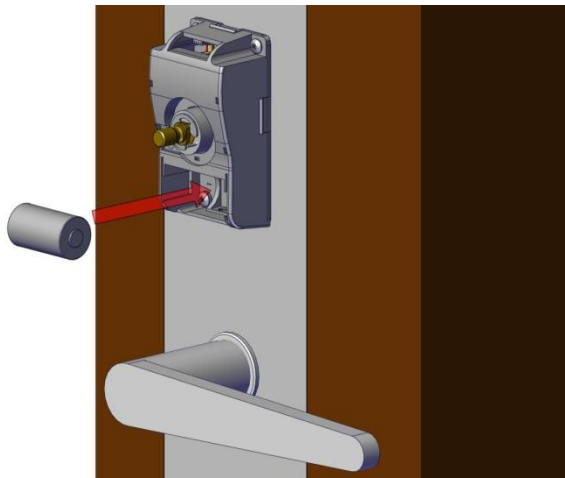

Fig. 14
**Step 6: Install Battery.** Please verify the battery is inserted in the correct polarity position. Always use new batteries installed with correct polarity (Fig. 14 and 15).